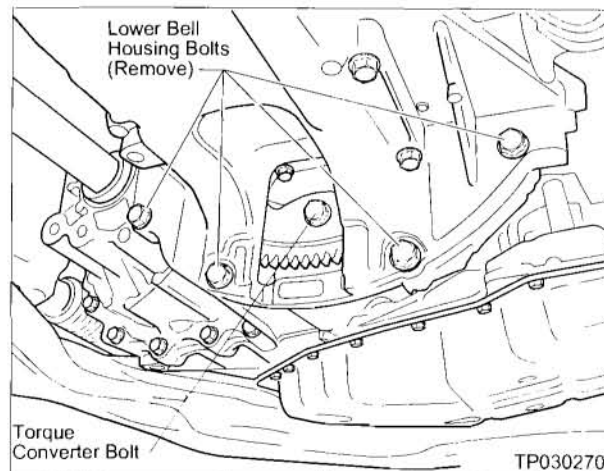

Figure F8
- Remove the Torque Converter and **Lower Bell Housing Bolts** before removing the engine. It's easier to do this before the engine is out of the vehicle (see Figure F8).